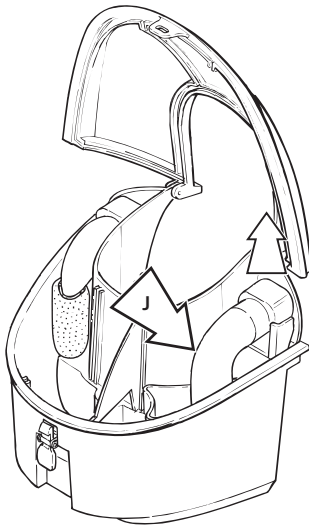

fig. 29
- Remove the dust collecting tank from its slot on the machine (fig. 29) and lift up the protection cover.